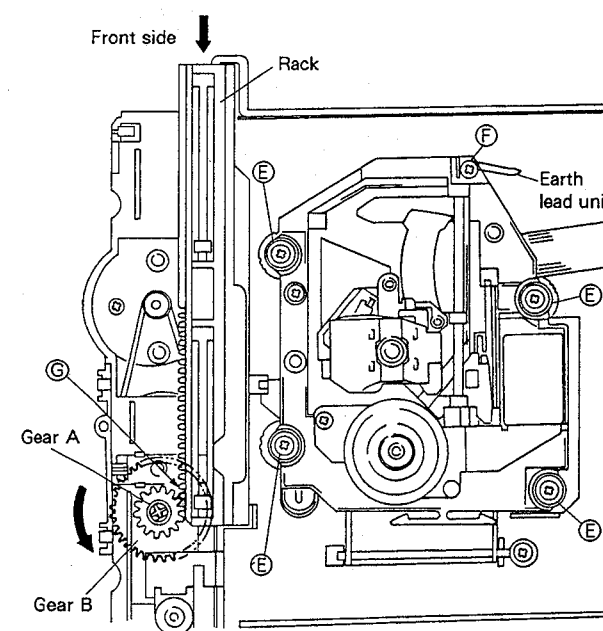

Fig. 2-3
- ① Remove the tray. (Refer to the "REMOVING THE TRAY".)
- ② Remove the four screws ⑤ and one screw ⑥ with the servo mechanism assembly lowered (to the tray-open position). (Fig. 2-3)
- ③ To move the rack by hand, gear A and the gear section of the rack must be engaged at section ⑦ (see Fig. 2-3). Otherwise, the rack may not move. In this case, move gear B with a ⊖ screwdriver from the side and fit gear B and the gear section of the rack at the engaging section ⑦.